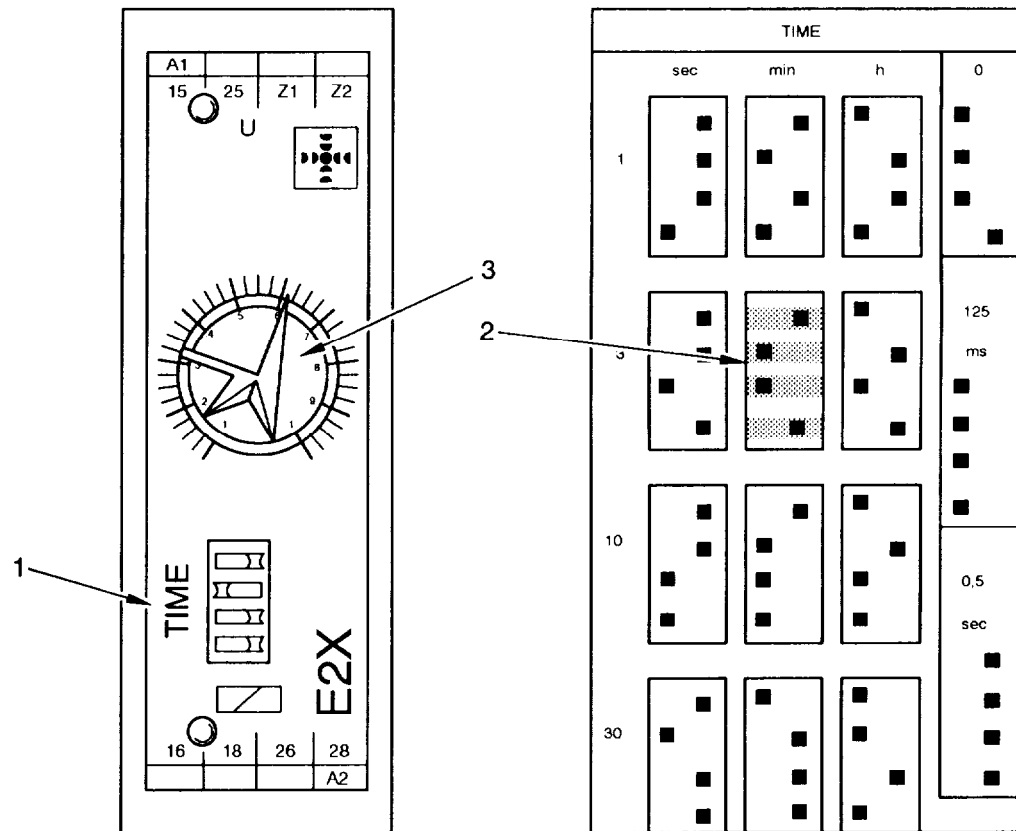

Figure 5-36 Time Relay K110
4. Set time relay K110 (20) to switching time of 180 seconds:
- a. On front of time relay K 110 (20), use TIME DIP switches (1) to set a time window of 3 minutes as shown in figure 5-36.
- b. On front of time relay K 110 (20), use rotary knob (3) to set a multiplication factor of 1.